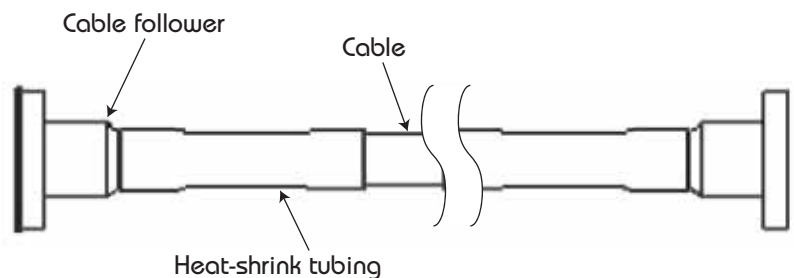

Figure 6. Install the heat-shrink tubing.
Step 6. Install the heat-shrink tubing (figure 6).